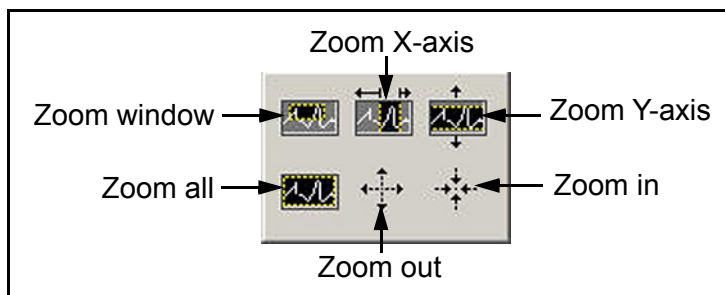

Figure 71: Zoom Tool
- Zoom Tool - gives you six options as shown in *Figure 71* below.